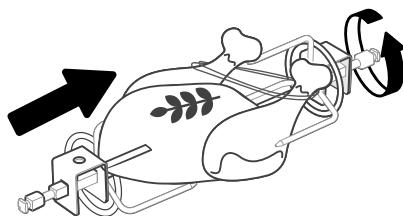

Figure 1.6
2. Place the rotisserie forks on either side of the shaft and insert them into the food item to secure it on the shaft. Tighten the knobs on the forks to secure them. *[Figure 1.6]*